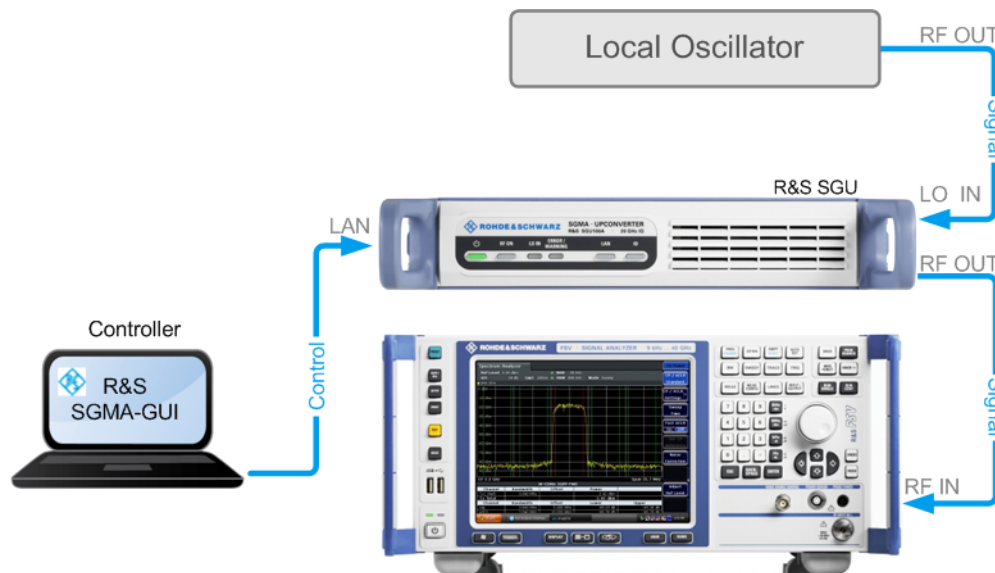

Fig. 4-2: Example of a setup of the R&S SGU as an upconverter
1. Connect the test equipment as shown in figure 4-2:
1. Connect the test equipment as shown in figure 4-2. Additional connections may be needed to fulfill the requirements of the connected local oscillator. To find out what connections are needed refer to its user manual.